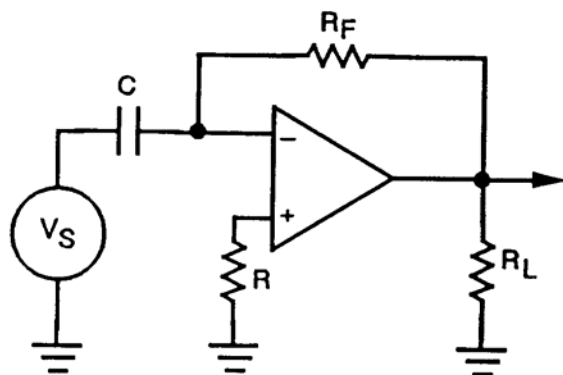

Figure Q-39. Integrator
g. The integrator (Figure Q-39) produces an integrated output and employs what is called feed-forward.